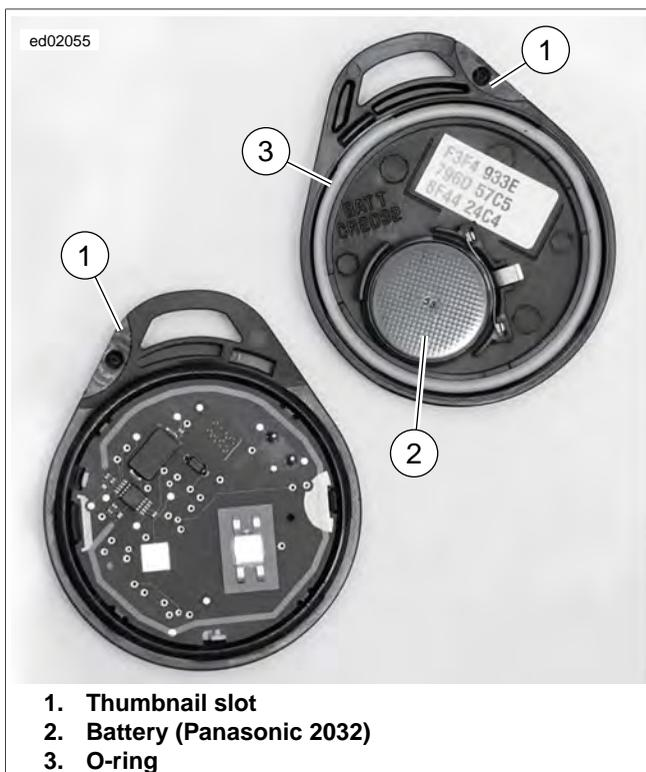

Figure 3-32. Open Fob: HFSM
1. See Figure 3-32. Open the fob case.
- a. Place a thin blade in the thumbnail slot (1) between the 2 halves of the case.
2. Replace battery (2).
3. With O-ring (3) in place, align case halves and snap case halves together.